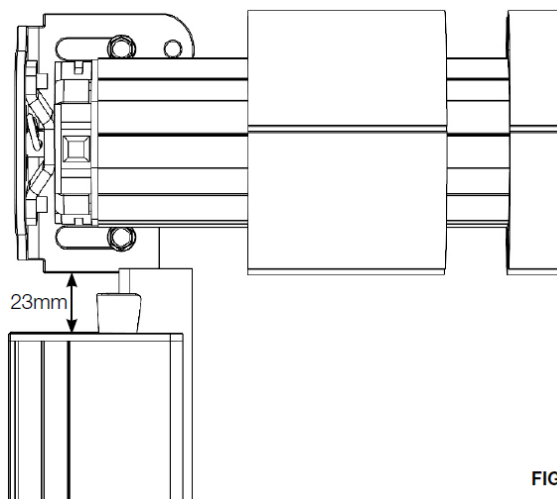

FIG F4
- Slide the channel up to butt up to the headbox (fig F3). For scenarios with no headbox refer to fig F4, F5 & F6.